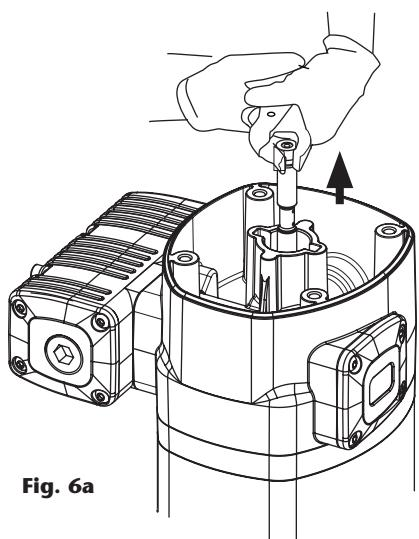
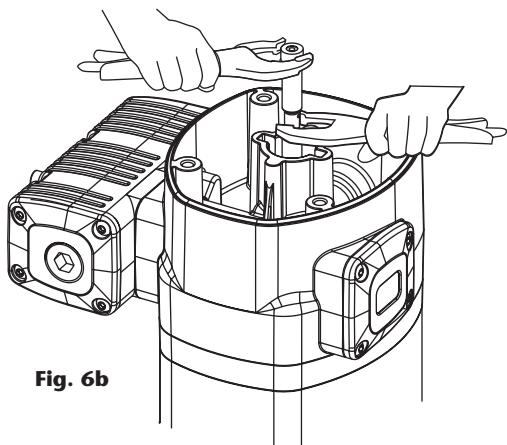

Fig. 6a
Fig. 6b
1. Unscrew the bolts (A) and remove the cap (B).
2. Unscrew the sensor sleeve (C).
3. With a manual clamp on the nut (D), pull the rod (O) outwards until its central recess appears (Fig. 6a). Then, with another manual clamp, grab the rod (O) on said recess to prevent sealing surface to be damaged, and unscrew the nut (D) (Fig. 6b).
4. Remove o-ring (E) and ring (F), and replace them with new ones later.
5. Unscrew the bolts (R). Pull the motor body (J) outwards to free it along with bridle (L).
6. Take away the gasket (G) and replace its seals (H) and (I).
7. Unscrew the bolts (M) and split the motor (J) from the bridle (L). Take away the washer (K) and replace the seal (H).
8. Take away the cylinder (N) while carefully holding the air piston (Q). Replace the piston seal (P).
9. Re-assembly in reverse order, applying thread locker in screws (M), nut (D) and sensor sleeve (C).